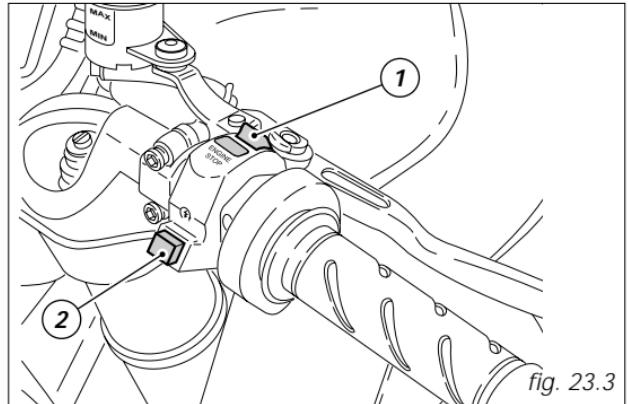

fig. 23.3
- 3) Check that the stop switch (1, fig. 23.3) is positioned to **ON (RUN)**, then press the starter button (2). Let the engine start without using the throttle control.